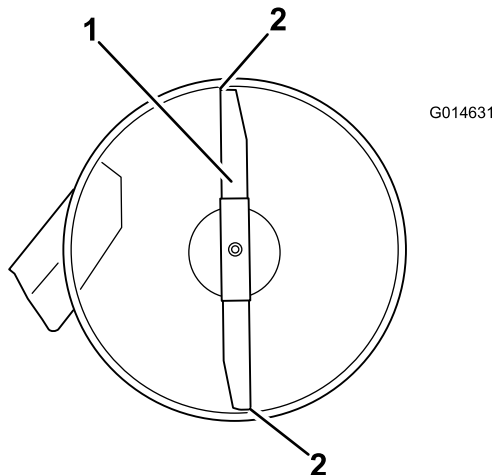

Figure 52
4. Carefully rotate the blades so they are facing front to rear (Figure 52).
5. Measure from the tip of the front blade to the flat surface and the tip of the rear blade to the flat surface (Figure 52).
9. After adjustment, check the front-to-rear slope again, continue adjusting the nut until the front blade tip is 1.6 to 7.9 mm (1/16 to 5/16 inch) lower than the rear blade tip (Figure 52).